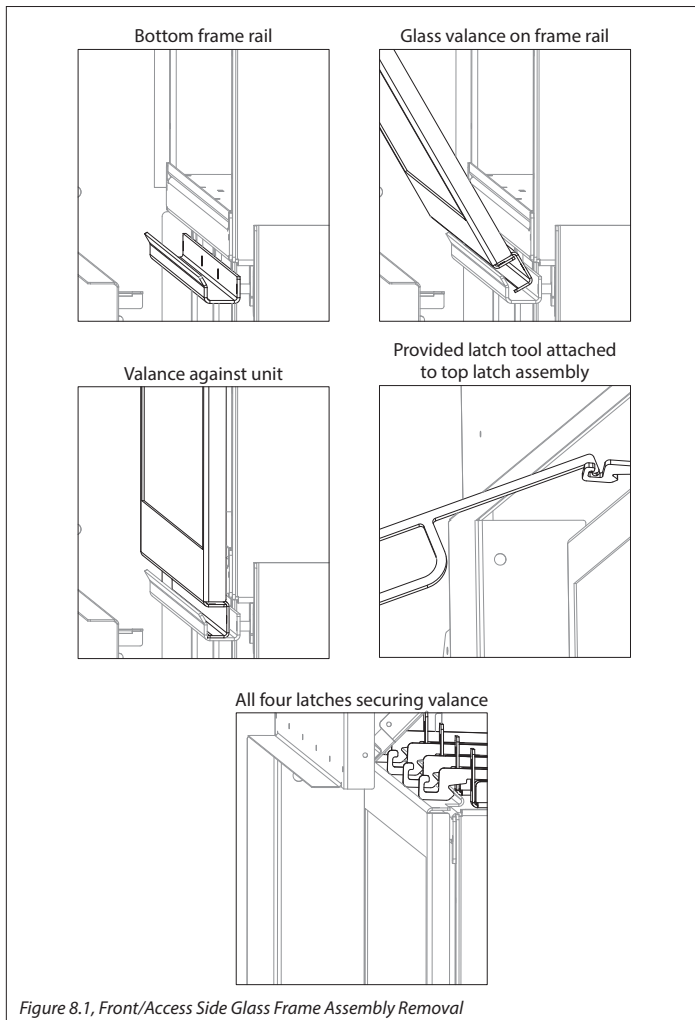

Figure 8.1, Front/Access Side Glass Frame Assembly Removal
2. Locate (4) spring-loaded latches securing the front glass assembly at the top of the firebox. Use the provided tool to unlatch the latch assemblies from the flange on top of the front glass valance. See Figure 8.1.
2. Use the provided tool to pull the (4) latch assemblies to latch with the flange on top of the front glass valance. See Figure 8.1.